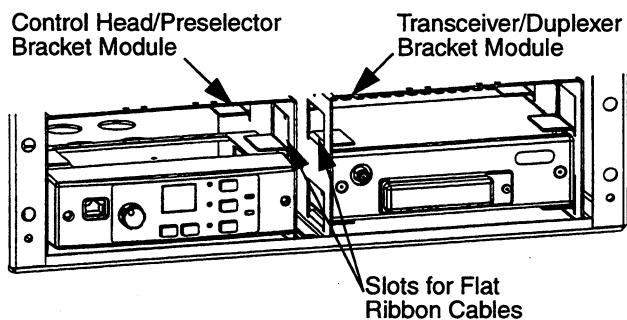

Figure 2-6. Route Flat Ribbon Cables
1. Place the assembled control head assembly/preselector bracket module into the left side position in the GR400 X-Pand housing. See Figure 2-6
3. Replace the two (2) TT4.0 screws removed from the right side in Step 7 under "Disassembling the Repeater Housing" on page 2-2. Tighten all four (4) screws to 1.58 N-m (14 in.-lbs.) torque.
1. Place the transceiver/duplexer bracket module into the right side position in the GR400 X-Pand housing. See Figure 2-6
2. Route the two (2) flat ribbon cables from the control head assembly/preselector bracket module through the upper left slot of the transceiver/duplexer bracket module as shown in Figure 2-6.